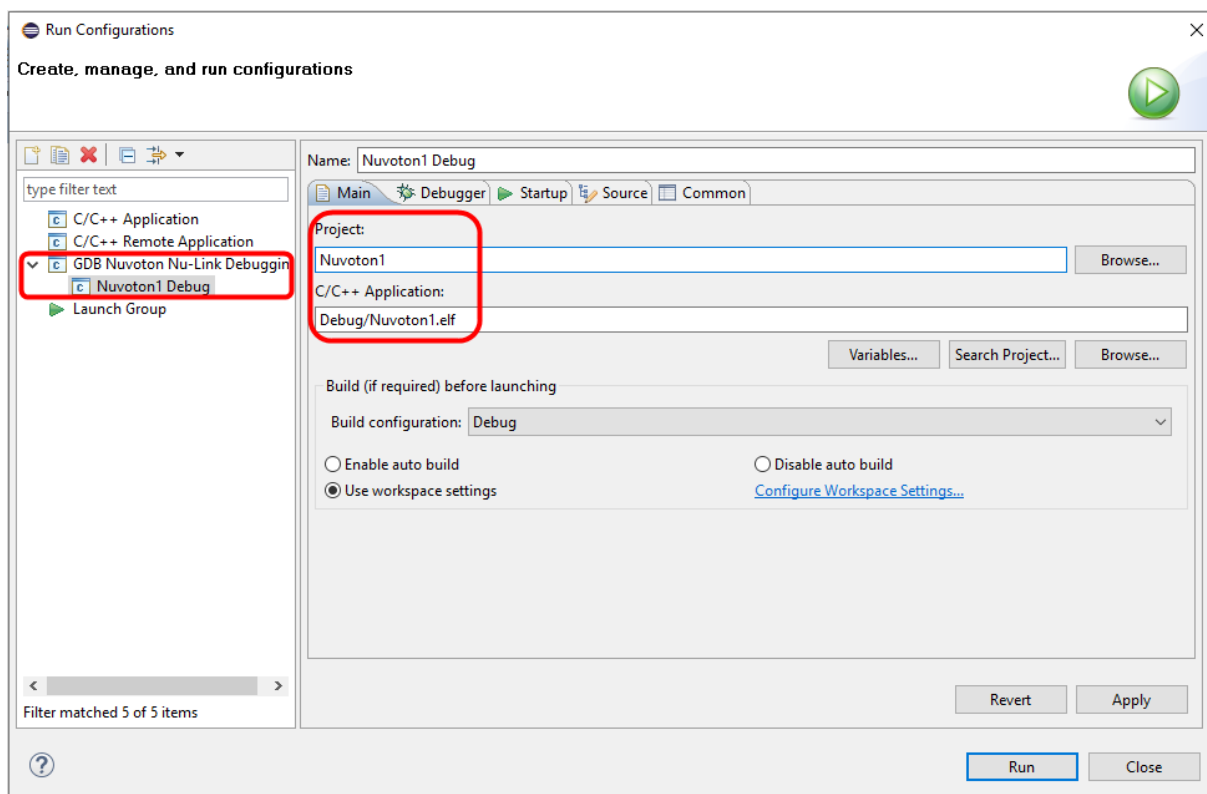

Figure 4-21 NuEclipse GCC Debug Configuration
Step 3: Into the debug mode, we have to prepare a debug configuration, which contains all the necessary information about the debug mode. Click **Run > Debug Configuration...** to open the debug configuration dialog. Double click on the **GDB Nuvoton NuLink Debugging** group. The Nuvoton Nu-Link debug configuration appears on the right-hand side. In the Main tab, the name of Project should coincide with the project name. The C/C++ Application should point to the .elf application generated by the build process. As shown in Figure 4-21. If the project name or C/C++ Application is incorrect, please select the expected project first in the project view, build the project to generate the executable, and expand the tree to make sure the existence of the generated executable. Then repeat the former operations again.